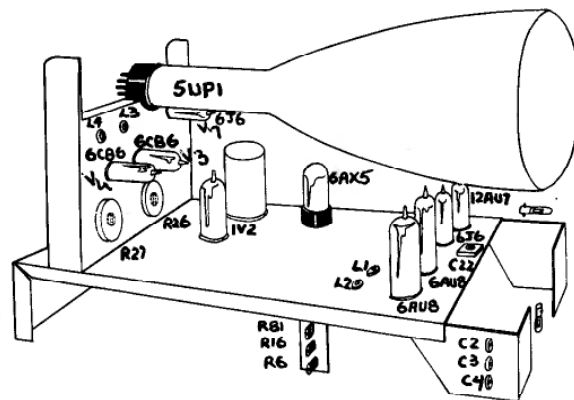

Fig. 7
b) Adjust panel controls for a stationary pattern of several 60 cps sine waves (approximate overall pattern dimensions: 2" high, 3" wide). Make a preliminary adjustment for sharpness of the trace with the FOCUS control. Then set the INTENSITY control to produce a trace of normal brightness (excessive intensity will be evidenced by "blooming" of the trace). At this point any astigmatism in the trace will be evidenced by some portions of the trace being thicker than others. Now jointly adjust the astigmatism control R81 (see Fig. 7) and the FOCUS control until a sharp trace with the greatest possible uniformity of thickness is obtained.
c) Short the V-INPUT terminals. Set the VERT. ATTENUATOR to "1000" under the AC arc on the dial and the VERT. GAIN control for minimum gain. Adjust the V. POS. control for a trace vertically at dead center. Now set the VERT. GAIN control for maximum gain and adjust the DC balance control R16 (see Fig. 7) until the trace is returned vertically to dead center. Repeat until no vertical shift in the trace can be detected when the VERT. GAIN control is rotated from minimum to maximum.
d) Adjust linearity controls R26 and R27 (see Fig. 7) exactly as follows. Set the VERT. GAIN control for minimum gain. Set your VTVM or VOM (at least 1000 Ω /volt) to a low DC volts range on which 2 volts dc can be read with reasonable accuracy. Connect the negative voltmeter lead to grid pin 1 of the 6CB6 tube V3 and the positive lead to cathode pin 2. Adjust the linearity control R26 for a voltmeter reading of 2 volts; or as near 2 volts as the control permits. Disconnect both voltmeter leads from the grid and cathode pins of V3. Now connect the negative voltmeter lead to grid pin 1 of the other 6CB6 tube V4 and the positive lead to the cathode pin 2. Adjust the other linearity control R27 for a voltmeter reading of 2 volts also, or if 2 volts was not obtainable in the previous adjustment, to whatever voltage was obtained in this adjustment. Do not attempt voltage measurements to ground as there is a voltage of approximately 100 volts between each 6CB6 cathode and ground which might seriously damage a voltmeter set to a low range. Change in H positioning is normal during these adjustments.
i) Adjustment of calibration voltage: Set your VTVM or VOM to the ac voltage range on which 1.42 volts rms (or 4 volts peak-to-peak) can be read as accurately as possible. Connect one voltmeter lead to the junction of rheostat R6 and resistor R5 and the other lead to chassis ground. Adjust rheostat R6 (see Fig. 7) for a reading of 1.42 volts rms or 4 volts peak-to-peak. Note that this voltage is applied to a 10:1 divider composed of R4 and R5, so that the voltage actually injected into the vertical amplifier is 400 millivolts peak-to-peak.
j) Adjustment of TV-H sweep trimmer: Set the SWEEP SELECTOR at TV-V. Then set the VERT. ATTENUATOR to CAL., the HOR. SELECTOR at "+", and adjust the SWEEP VERNIER to obtain a stationary pattern of two complete cycles on the screen indicating a 30 cps sweep frequency. Now turn the SWEEP SELECTOR to the TV-H position and apply a 15,750 cps signal taken from the horizontal section of any tv set to the V. INPUT terminals. Adjust the VERT. ATTENUATOR & VERT. GAIN controls to obtain a drifting pattern entirely on screen but do not touch the SWEEP VERNIER. Now adjust trimmer C22 (see Fig. 7) until a stationary pattern of two complete cycles is obtained on the screen, indicating a 7875 cps sweep frequency. This completes the adjustment. Now, whenever the SWEEP VERNIER is set to produce a 30 cps sweep (indicated by two cycle display of 60 cps signal) with the SWEEP SELECTOR set at TV-V, turning the SWEEP SELECTOR to TV-H without touching the SWEEP VERNIER will automatically give a 7875 cps sweep.
TUBE REPLACEMENT: Tube location is shown in Fig. 7. Readjustment will be required when replacing V1, V2, V3, or V4. When the CRT is replaced, it must be rotated until the horizontal trace is level.